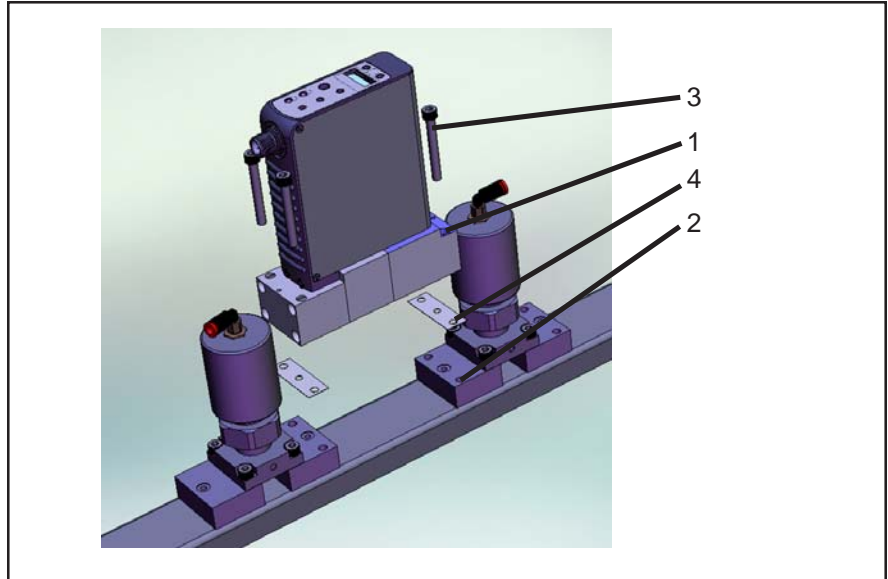

Figure 3-4 GF1XX Mounted to K1 Series Substrate Blocks
1. Refer to Figure 3-4. If downported fittings (1) are used, the GF1XX is mounted to K1 Series substrate blocks (2) with four screws (3). Metal C-seals or W-seals (4) (as provided by integrator) are inserted between the GF1XX and substrate blocks before the screws are installed. These metal seals must be replaced after each installation.
3. Refer to Figure 3-4. Insert the two mounting seals (4) over the gas flow path of the K1 block. Carefully align the GF1XX mounting holes onto the K1 substrate blocks. Using your fingers, install the screws through the GF1XX fitting and hand tighten.